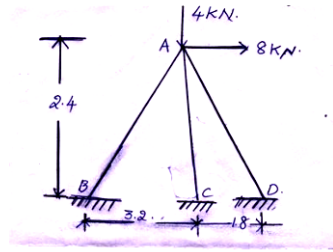

Figure 2
- (b) Using 2 DOF truss element determine the horizontal and vertical displacement of joints and the forces in all the members of the plane pin jointed frame shown in fig. joints B,C,D are at the same level as shown in Figure 2,  $c/s \text{ area} = 2400 \text{ mm}^2$ ,  $E = 2 \times 10^5 \text{ N/mm}^2$ . [7M]